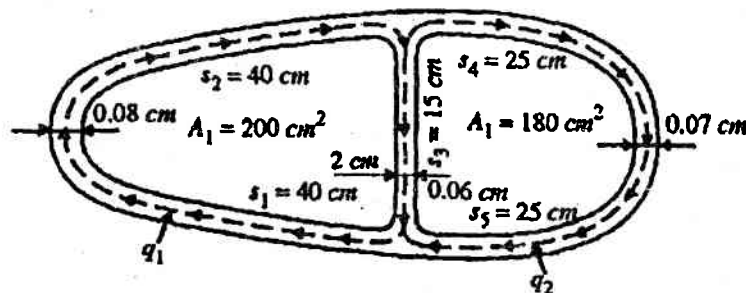

Figure 4
- (b) A two cell tubular section shown in Figure 4 is subjected to an external torque of  $25 \text{ kNm}$ . in clockwise direction. Determine the internal shear flow distribution.